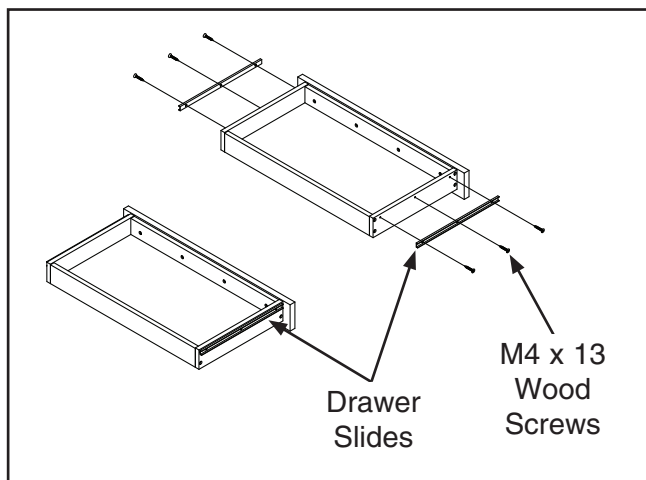

Figure 3. Attaching drawer slides to the drawers.
- Attach the ball bearing drawer slides to tops of the drawer side panels, as shown in **Figure 3**, with the M4 x 13 wood screws.